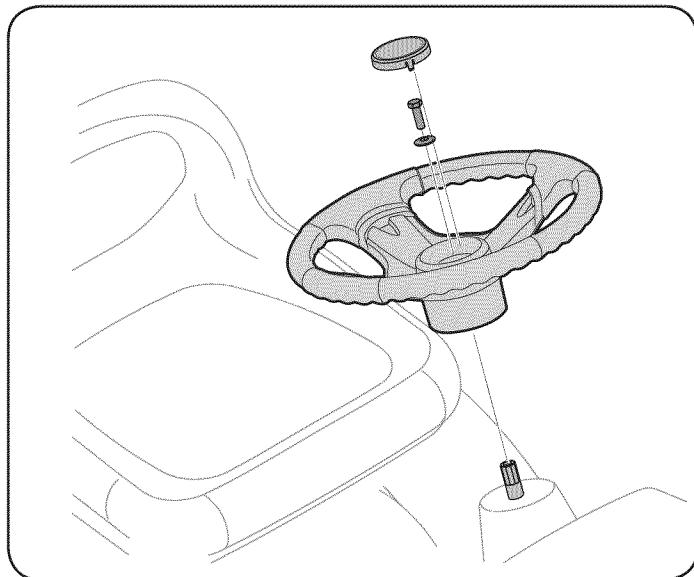

Figure 3
2. Place the washer (with the cupped side down) over the steering wheel and secure with the hex bolt. See Fig. 3.